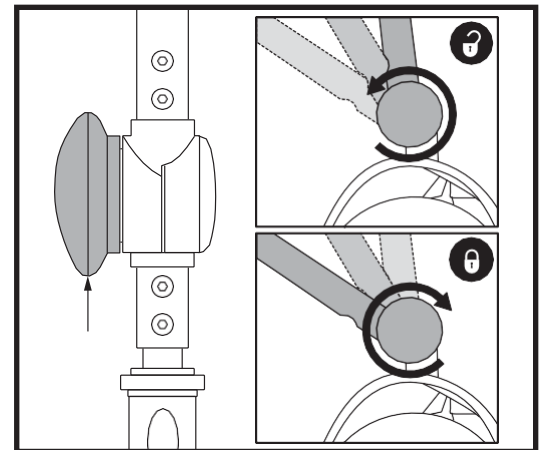

Figure 23. Tiller Adjustment Knob
TILLER ANGLE ADJUSTMENT (See figure 23)
1. With the seat and battery pack removed (see Disassembly Procedures on previous page), lower the tiller and tighten the tiller adjustment knob. **See figure 23.**
3. Raise the tiller and fully tighten the tiller adjustment knob. **See figure 23.**